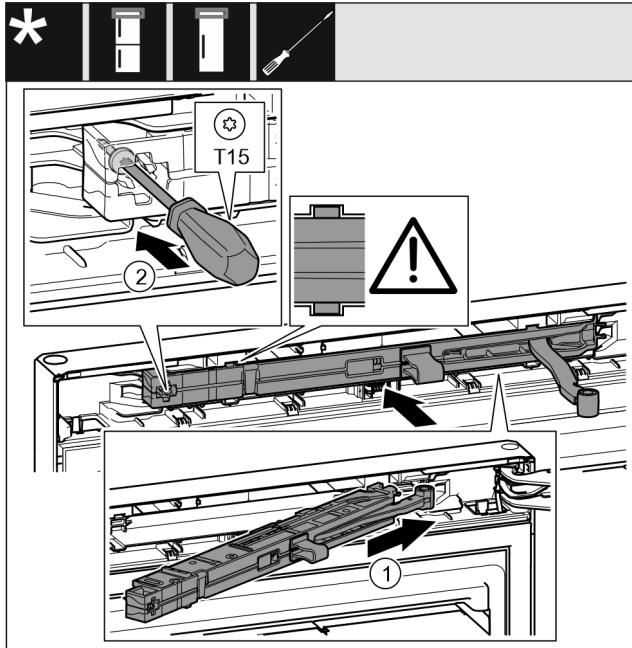

Fig. 22
- ▶ Slide the soft stop mechanism on the bearing bracket side at an angle into the recess as far as it will go. *Fig. 22 (1)*
- ▶ Tighten the screw using a T15 screwdriver. *Fig. 22 (2)*